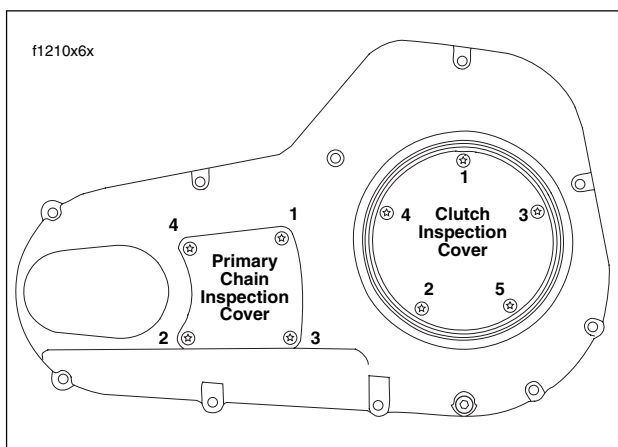

Figure 6-1. Primary Chaincase Cover
1. See Figure 6-1. Using a T27 TORX drive head, remove four screws to free the primary chain inspection cover from the primary chaincase cover.
5. Align holes in **new** gasket with holes in the primary chaincase cover. Using a T27 TORX drive head, install four screws to secure primary chain inspection cover to primary chaincase cover. Alternately tighten screws to 84-108 **in-lbs** (10-12 Nm) in a crosswise pattern. See Figure 6-1.
11. Using a T27 TORX drive head, install five screws (with captive washers) to secure clutch inspection cover to the primary chaincase cover. Alternately tighten screws to 84-108 **in-lbs** (10-12 Nm) in the pattern shown in Figure 6-1.